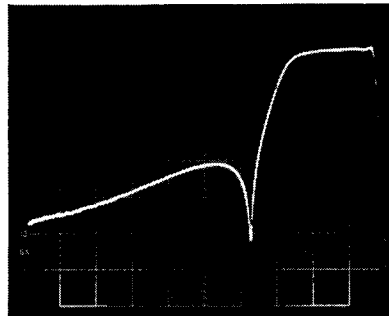

Fig. E-3: 2.2-15KHZ BANDPASS FILTER RESPONSE
1) Connect the output of the 5L4N tracking generator to TP1 of Card #8 (pin L on the card connector). Connect the input of the 5L4N to the left rear-panel TEST JACK. Observe the swept response with the 5L4N vertical span at 10dB/div, with 20-20kHz log frequency sweep. The swept response shows the response of the 2.2-15kHz bandpass filter which is created by subtracting the output of the 2.2kHz lowpass filter from the output of the 15kHz lowpass filter. Note the high amount of rejection below 2.2kHz, and the very steep slope at 2.2kHz (see Fig. E-3).
If this swept response does not resemble Fig. E-3, then there is a fault in either the filters or phase correctors between the card input and the output of IC803B. This test is both fast and sensitive because accurate cancellation demands accurate matching of the phase and amplitude responses of both the phase-corrected 15kHz lowpass filter and the 2.2kHz lowpass filter. If any circuitry is faulty, then the cancellation will not occur accurately.